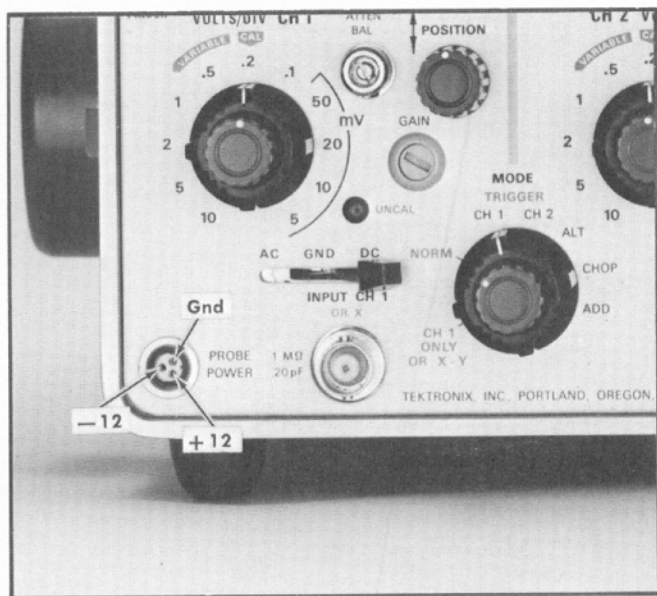

Fig. 6-6. Location of pins in the CH 1 and 2 PROBE POWER connectors.
- a. Connect the precision DC voltmeter between the +12-volt terminal of the CH 1 PROBE POWER connector (see Fig. 6-6) and the ground terminal.
- c. Connect the precision DC voltmeter between the -12-volt terminal of the CH 1 PROBE POWER connector (see Fig. 6-6) and the ground terminal.
- e. Connect the precision DC voltmeter between the ground terminal of the CH 1 PROBE POWER connector (see Fig. 6-6) and chassis ground.
- g. Connect the precision DC voltmeter between the +12-volt terminal of the CH 2 PROBE POWER connector (see Fig. 6-6) and the ground terminal.
- i. Connect the precision DC voltmeter between the -12-volt terminal of the CH 2 PROBE POWER connector (see Fig. 6-6) and the ground terminal.
- k. Connect the precision DC voltmeter between the ground terminal of the CH 2 PROBE POWER connector (see Fig. 6-6) and chassis ground.